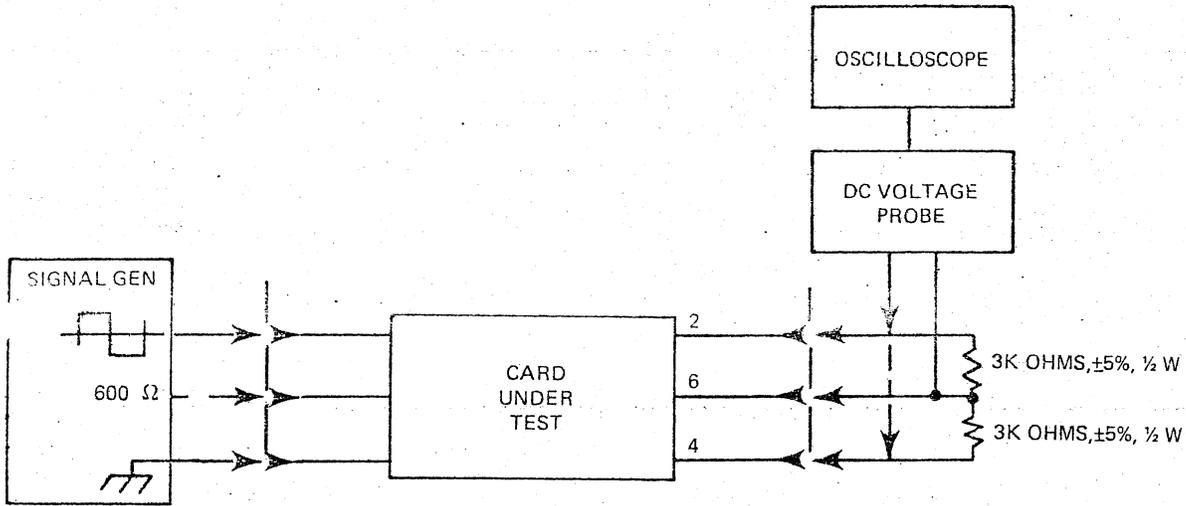

FIG. 3
3.06 Connect the test equipment as shown in Figure 3. If the card is tested outside of the enclosure, the test equipment should be connected to the card edge connector. If the card is tested in an enclosure, the test equipment should be connected to the rear panel connector/terminal strip.